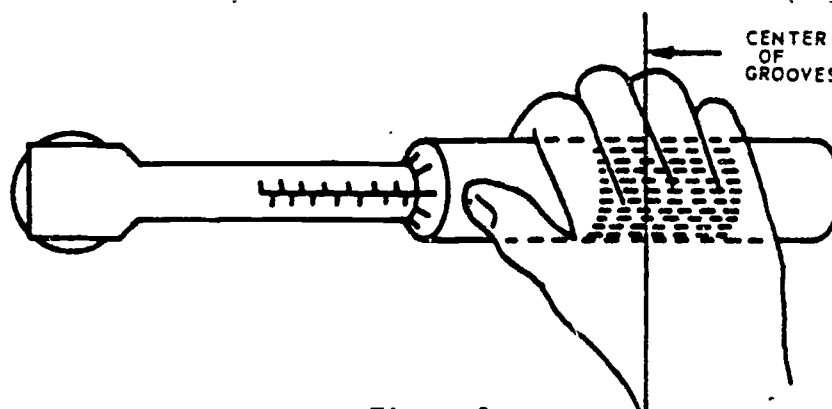

Figure 2.
b. Holding the torque wrench as shown in figure 2, and using a very steady, smooth pull, pull the handle toward you. DO NOT STOP. It is important you do not stop or an inaccurate torque will result. If this should happen - loosen the nut with the hinge handle and start your tightening procedure OVER.